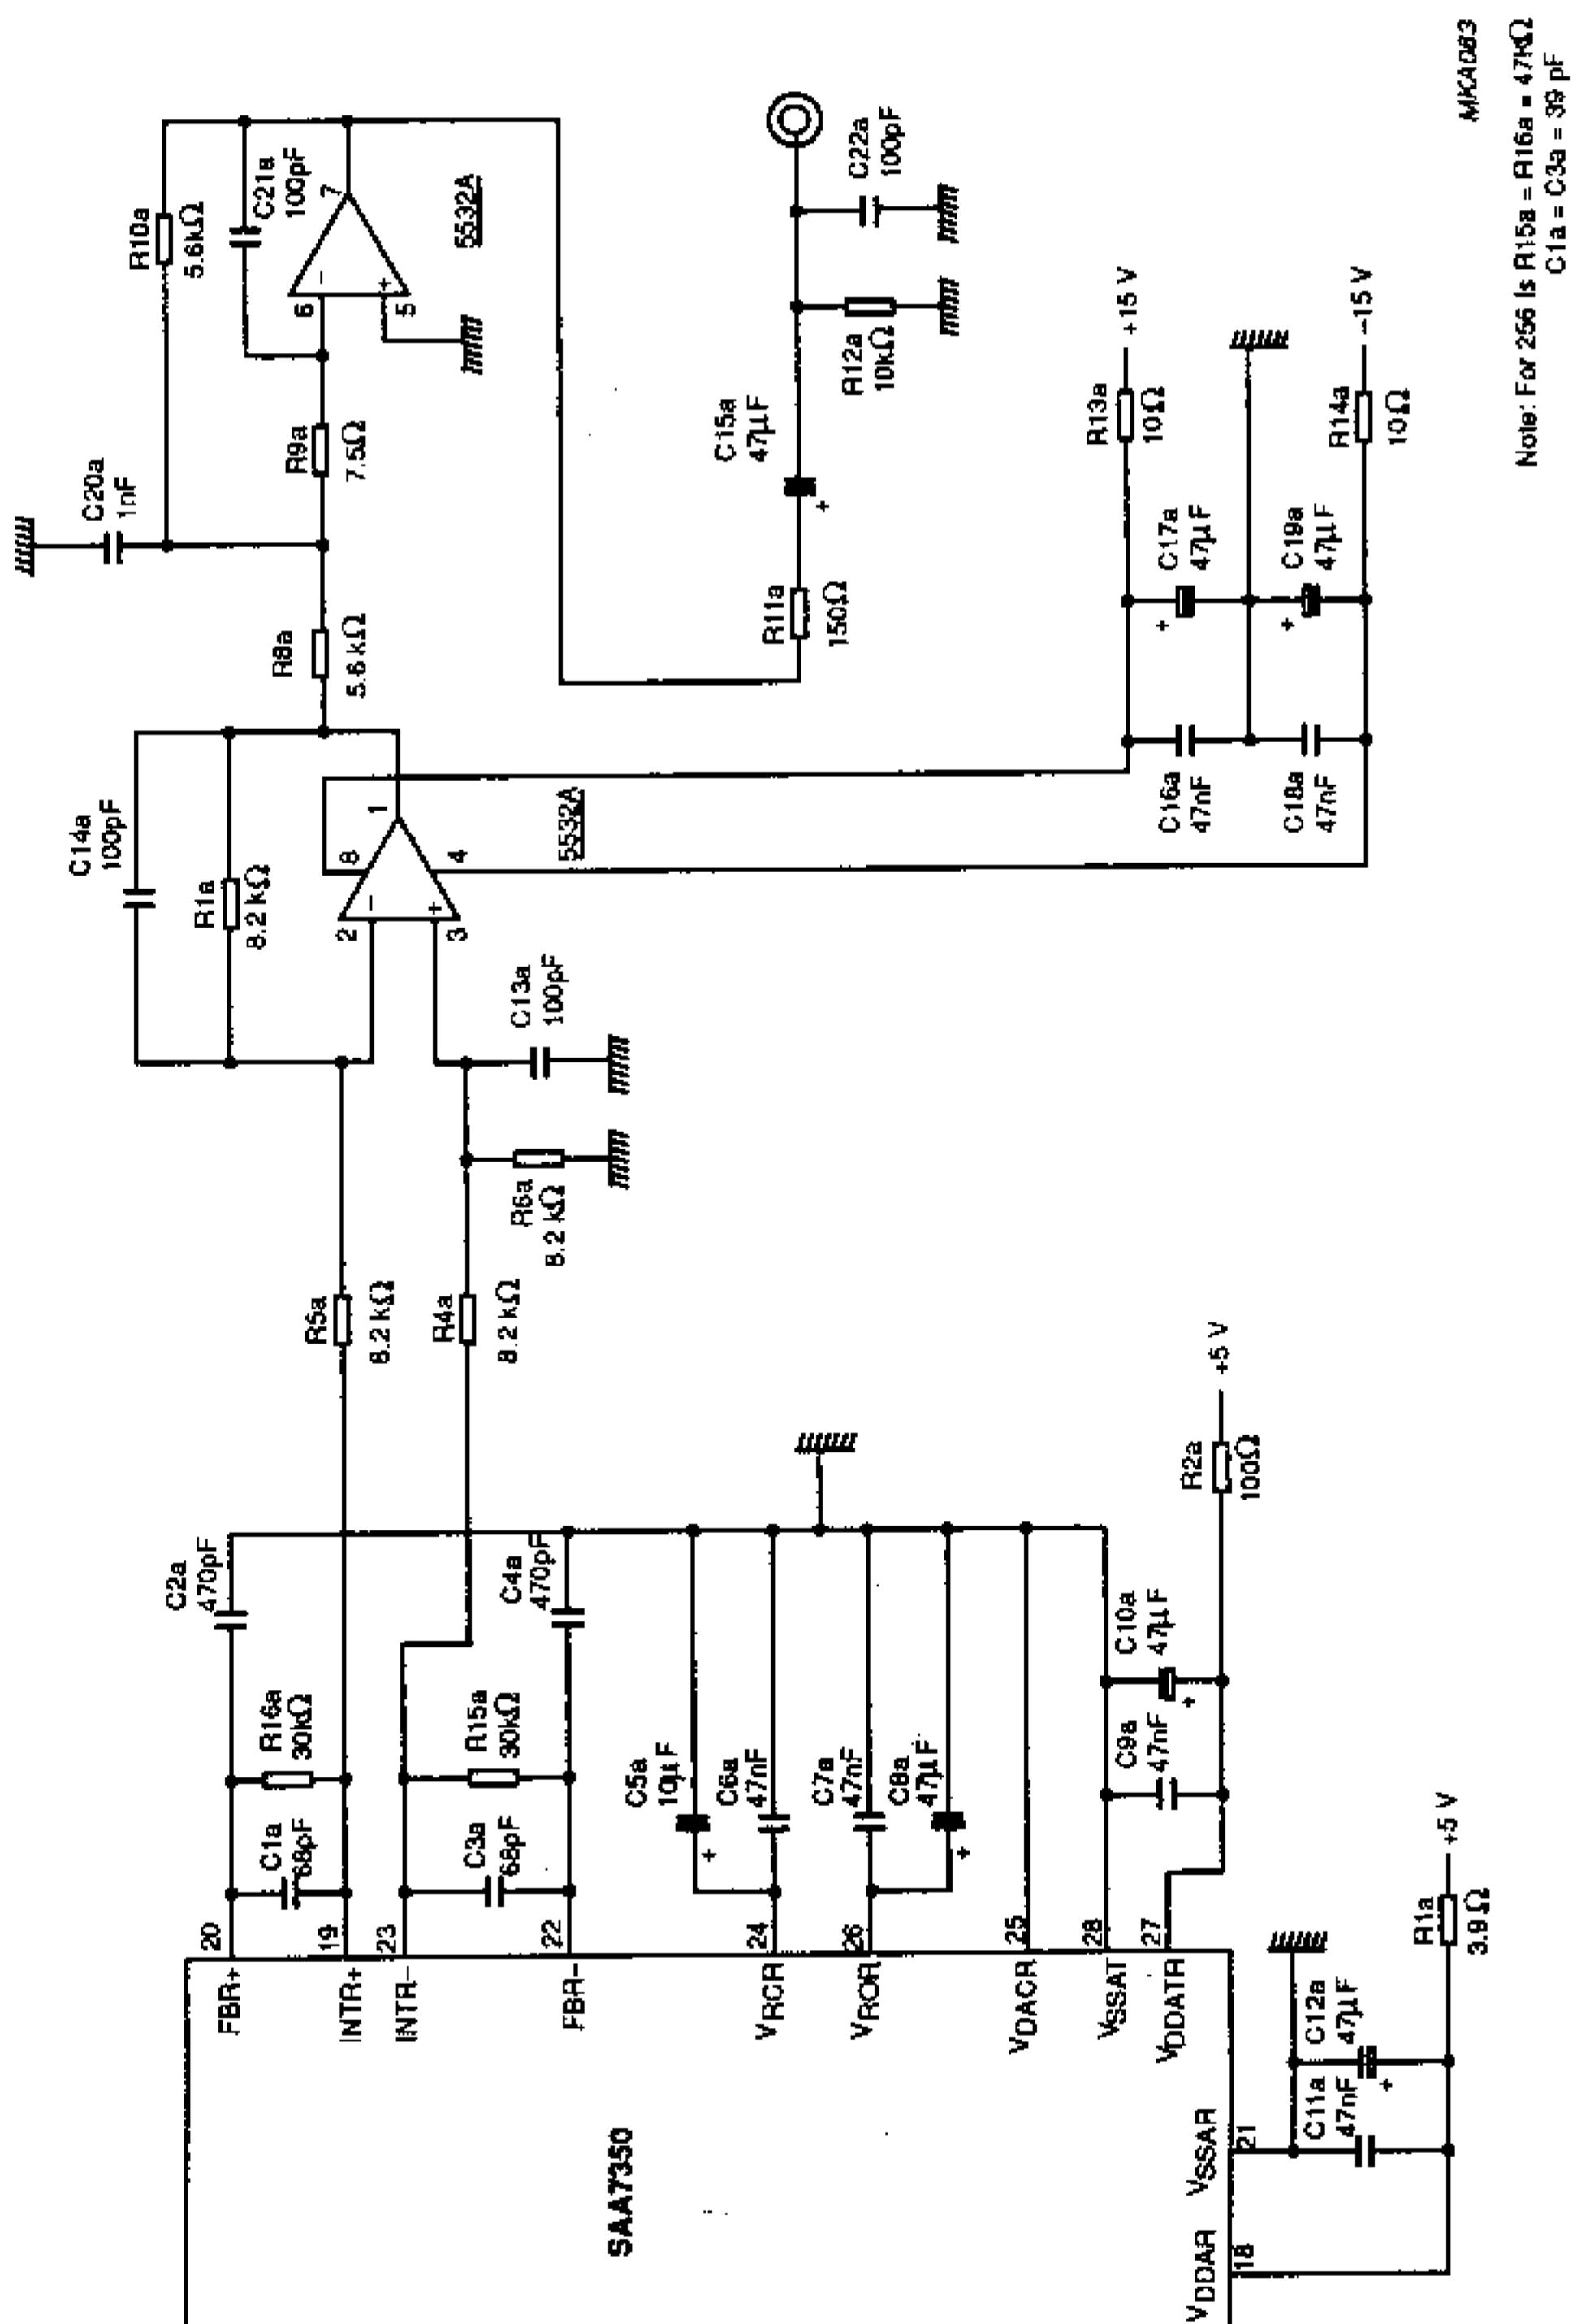

Fig.13 SAA7350 application circuit - analog section right channel (384 fs, 44.1 kHz).
10. Device measured in differential mode with external components shown in recommended application diagram (see Figs 13 and 14). It should be noted that for 1.80 mV output, feedback resistors R16a, R17a, R16b, R17b should be 31.6 k $\Omega$ . Application diagram shows preferred type range values of 30 k $\Omega$  which give  $1.80 \times 30/31.6 = 1.70$  mV.
13. Application output level measured at output from first operational-amplifier stage in Figs 13 and 14.